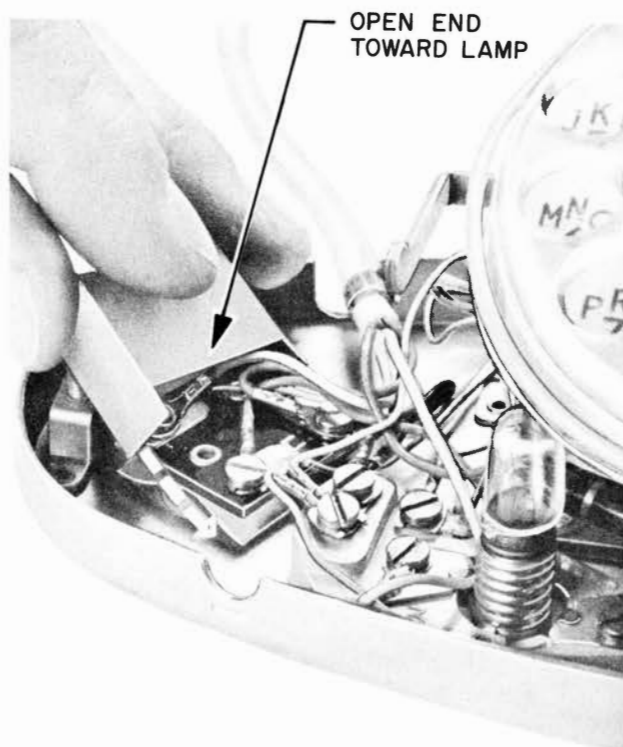

Fig. 4 - Placing of P-25E307 Insulator
2. Place P-25E307 insulator over terminal block and open end of insulator toward center of telephone set. (See Fig. 4.)